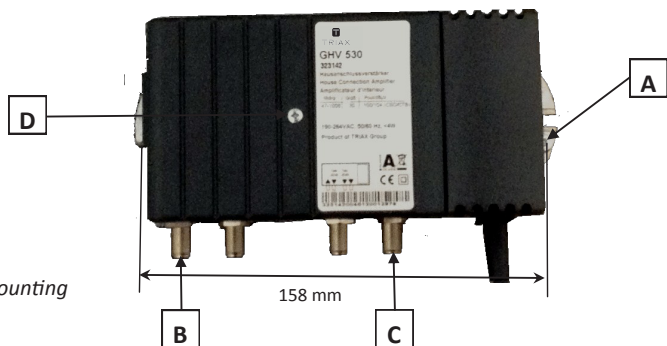

Fig. 1 Mounting
- ☞ Fasten the Amplifier according to its measurements (See Fig. 1.) on the wall. (Screws-Ø max. 4.8 mm, Distance between holes 158 mm)
Remove the top cover of the Amplifier by removing screw D (see Fig. 1)